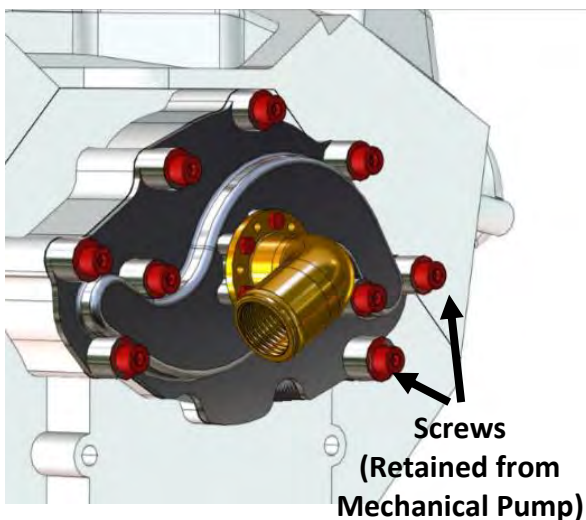

Figure 4
6. Fit the new gasket (supplied) on to the timing cover surface with gasket glue or appropriate adhesive (not supplied), ensure the screw holes align with those on the timing cover. Place the Pre-Assembled Windsor Adaptor Plate on the Timing Cover and secure in place with the screws used previously on the Mechanical Water Pump (refer Figure 4).